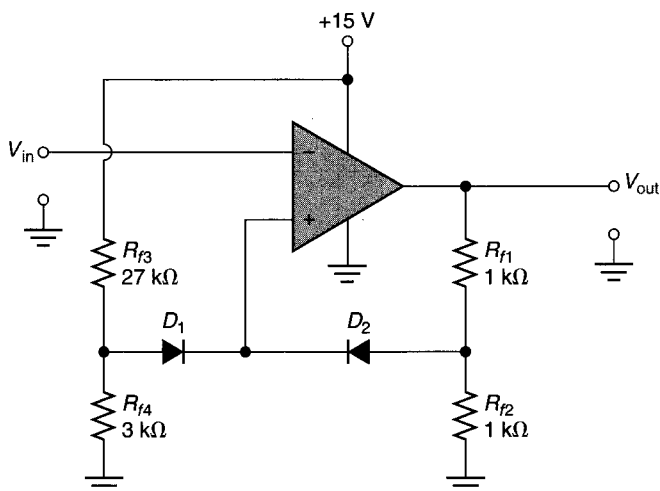

FIGURE 19.62
28. Determine the UTP and LTP values for the Schmitt trigger in Figure 19.62.